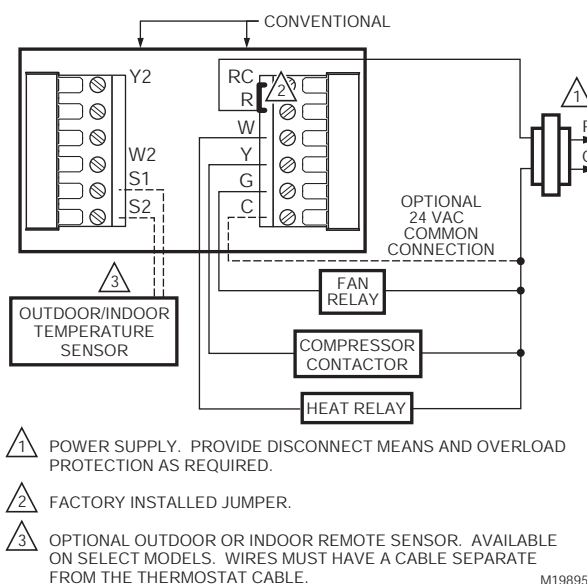

Fig. 9. Typical hookup of conventional single-stage heat and cool system with single transformer (1H/1C conventional).
WIRING (FIG. 9 - 21)
- 6. See Fig. 9 through 21 for typical wiring hookups.